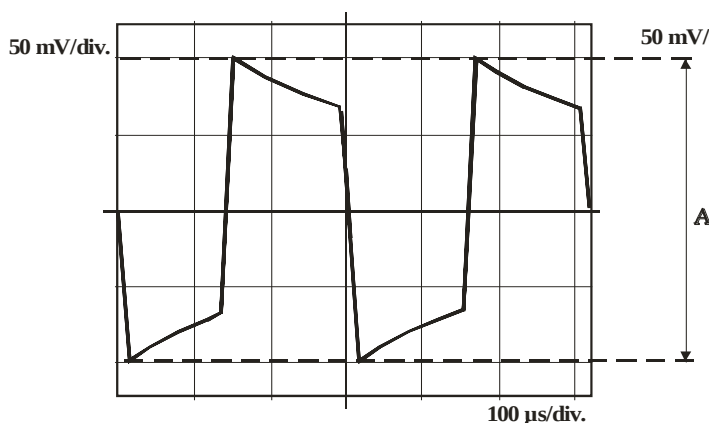
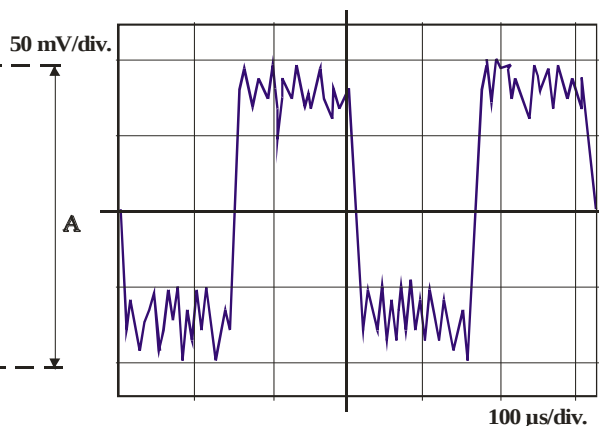

Figure 13 - Correct waveform
Figure 14 - not correct waveform (excessive noise)
- o) Press key **“buzzer”** (15) untill the buzzer enabling LED **“buzzer On”** (16) lights up. When there are no movements in the protection field check that the buzzer is mute. If otherwise, press key **“↓ buzzer adj.”** (14) till it turns OFF. If when activating the function the buzzer is already mute press key **“↑ buzzer adj.”** (13) till an intermittent operation is obtained, afterwards slightly press key **“↓ buzzer adj.”** (14) till it switches OFF.
- s) The STC 95 is provided with an **RCA** (23) connector which, through the cable supplied, allows to check the wave form of the received signal. An oscilloscope (any of the types present on the market) is utilised for this check. A good connection between the transmitting head and the receiving head produces the waveform illustrated in fig. 13.
A bad installation produces the waveform illustrated in fig. 14.
Note the noise at the tip of the square wave. This means that the signal is not good. Therefore, repeat the pointing operations till the waveform shown in fig. 13 is obtained. In case of bad barrier installation the waveform will be like the one in fig. 14.